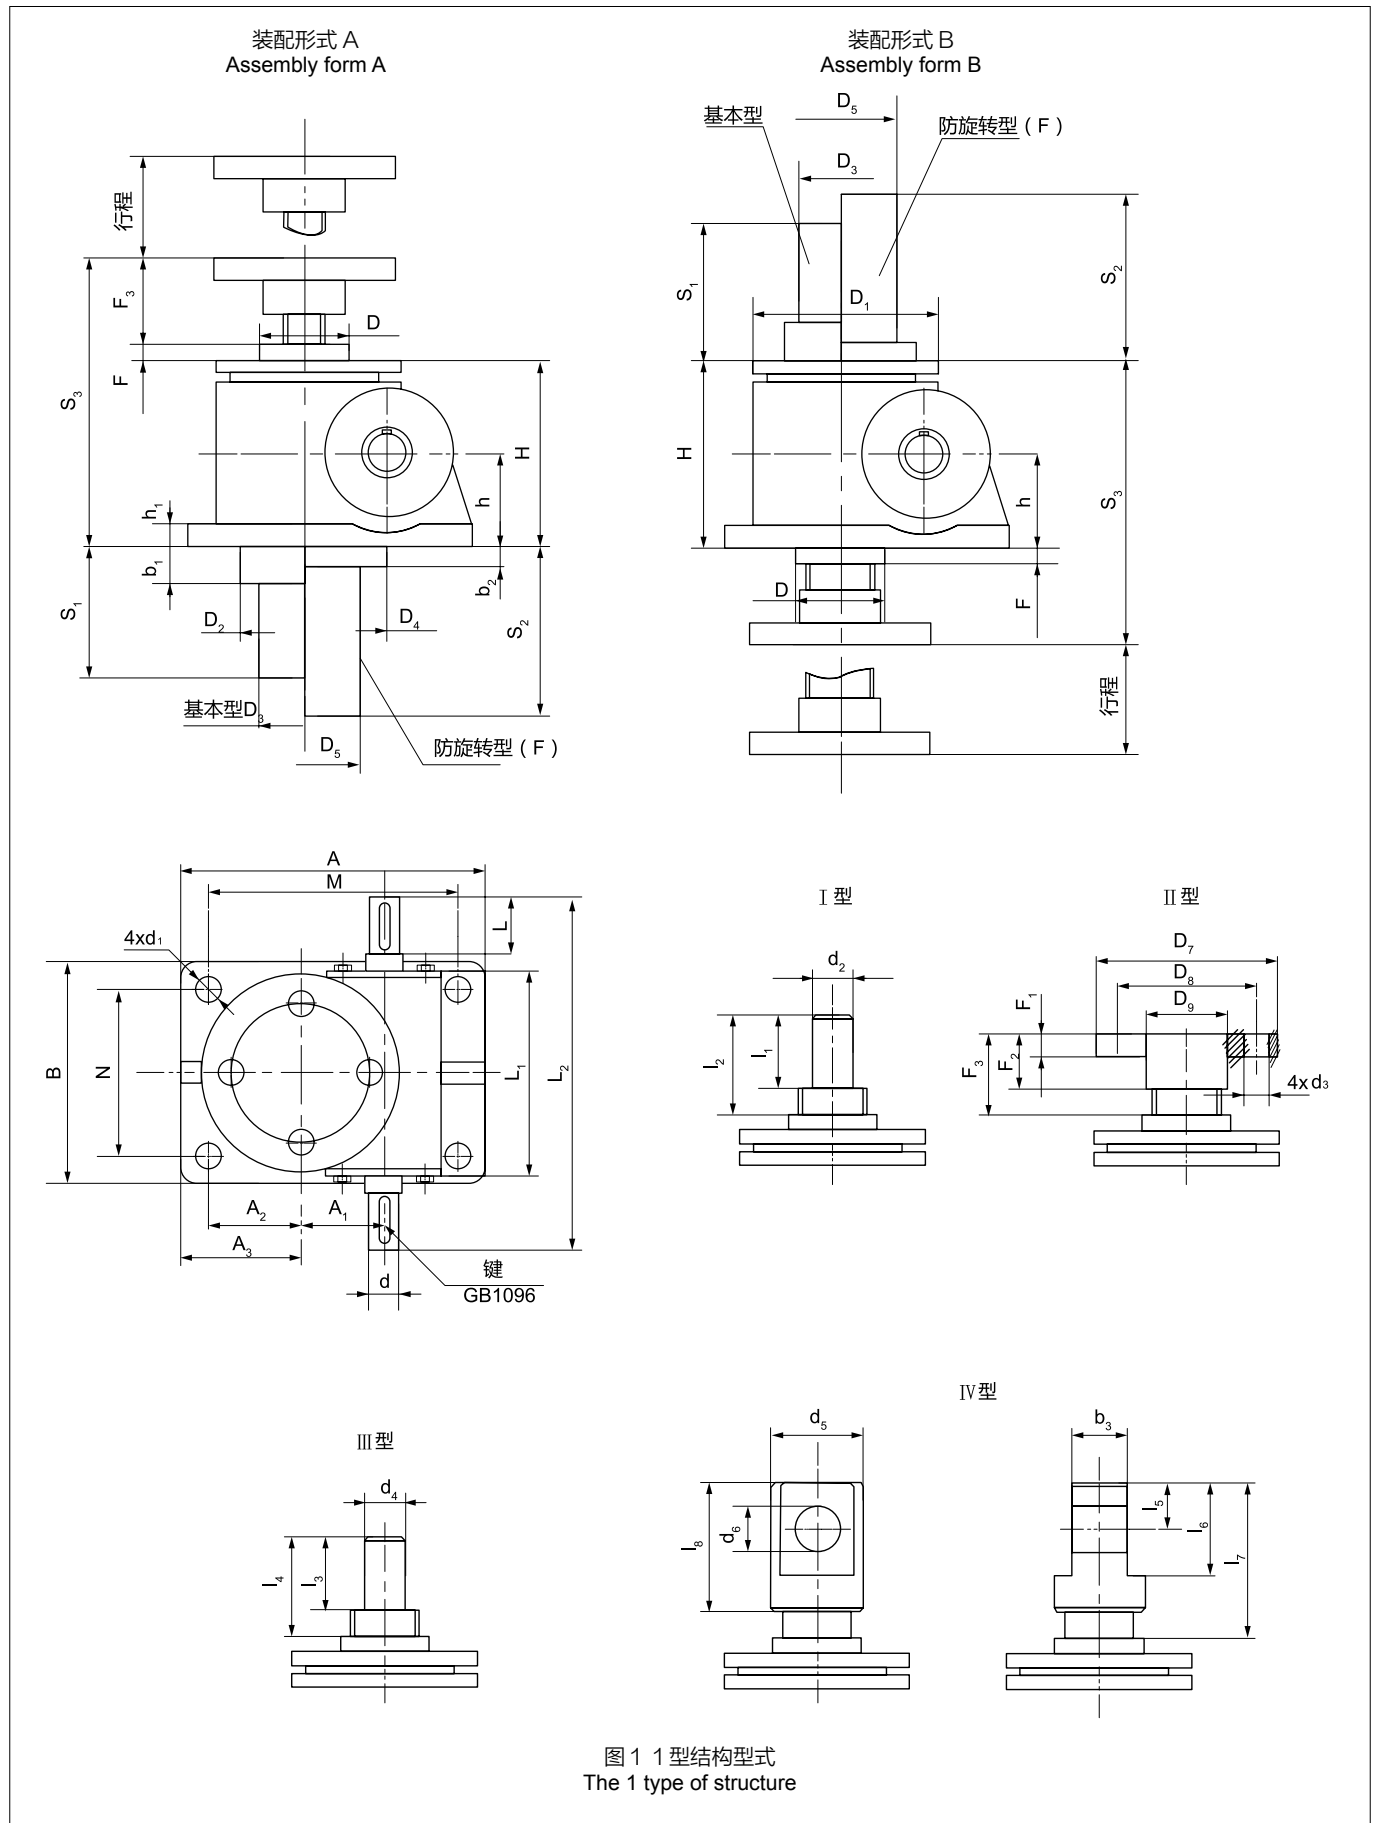
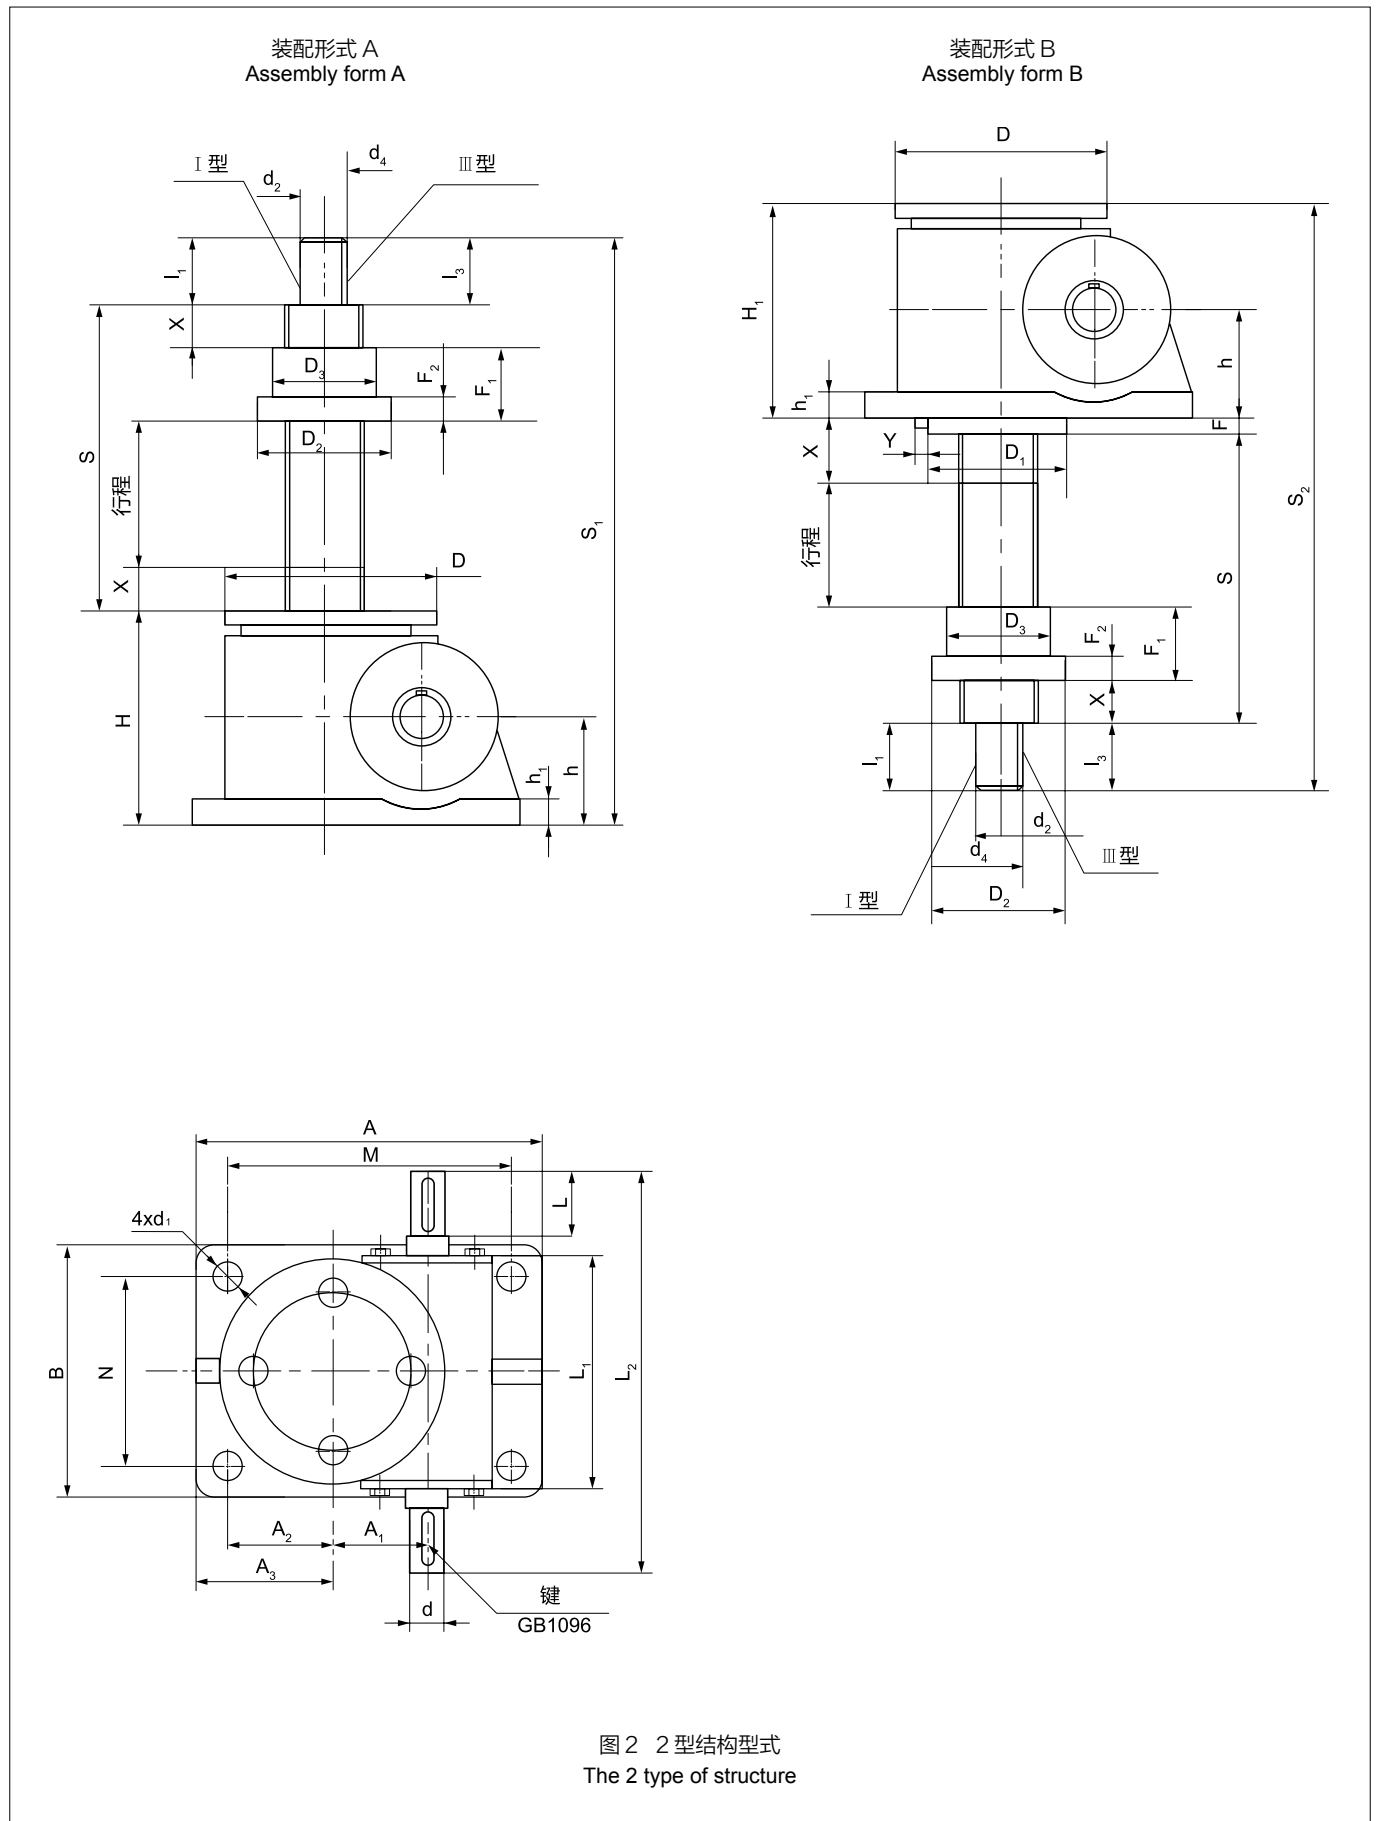

图 1 1 型结构型式
图2 2型结构型式
- 1 型—螺杆同时作旋转运动和轴向移动(见图 1);
- A 型—螺杆(或螺母)向上移动(见图 1 和图 2);
- B 型—螺杆(或螺母)向下移动(见图 1 和图 2)。
- 1 型结构型式的螺杆头部分为 I 型(圆柱型)、II 型(法兰型)、III 型(螺纹型)和 IV 型(扁头型)四种型式(见图 1)
- 2 型结构型式的螺杆头部分为 I 型(圆柱型)和 III 型(螺纹型)两种型式(见图 2)
- Type 1—Rotation and axial movement of screw at the same time (see Figure 1);
- Type 2—Rotation of screw, the nuts of screw shift axial (see Figure 2).
- Type A—screw(or nuts) to move up (see Figure 1 and Figure 2);
- Type B—screw (or nuts) to move down (see Figure 1 and Figure 2).
- The screw head part of type 1 structure types are I (cylindrical), type II (flange type), type III (thread) and type IV (flat type) of four types (see Figure 1)
- The screw head part of type 2 structure types are I (cylindrical) and type III (thread) of two types (see Figure 2).
1 型升降机的外形结构尺寸见图 1 和表 1
2 型升降机的外形结构尺寸见图 2 和表 2
The structure dimensions of type 1 hoists, see Figure 1 and table 1
The structure dimensions of type 2 hoists, see Figure 2 and table 2